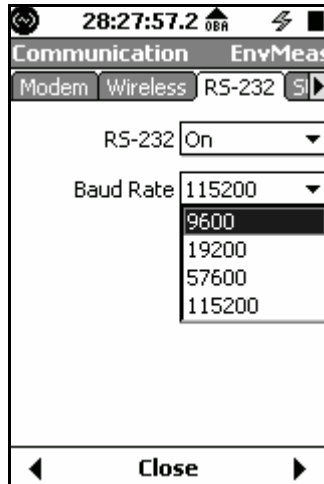

FIGURE 20-14 Baud Rate Menu
Step 7 Set the desired Baud rate as shown in FIGURE 20-14.